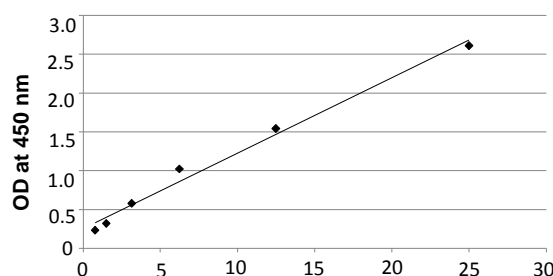
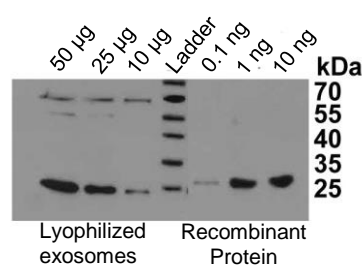

Figure 4. CD9 titration of plasma healthy donor exosome standards.
Figure 5. CD9 marker detection by Western Blotting on lyophilized exosomes from human plasma and the recombinant CD9 protein.
12. **Sensitivity:** The sensitivity of the kit was compared to Western blot. The data reported in Figure 4 and 5 demonstrate that the sensitivity of kit is higher than that of Western blotting. Figure 5 shows that 10 µg of lyophilized exosomes is equivalent to 0.1 ng of recombinant exosomal protein (CD9). Since the standard curve's lower concentration is 0.39 µg of lyophilized exosomes (Figure 4), the sensitivity of our test is around 39 pg of protein equivalent.